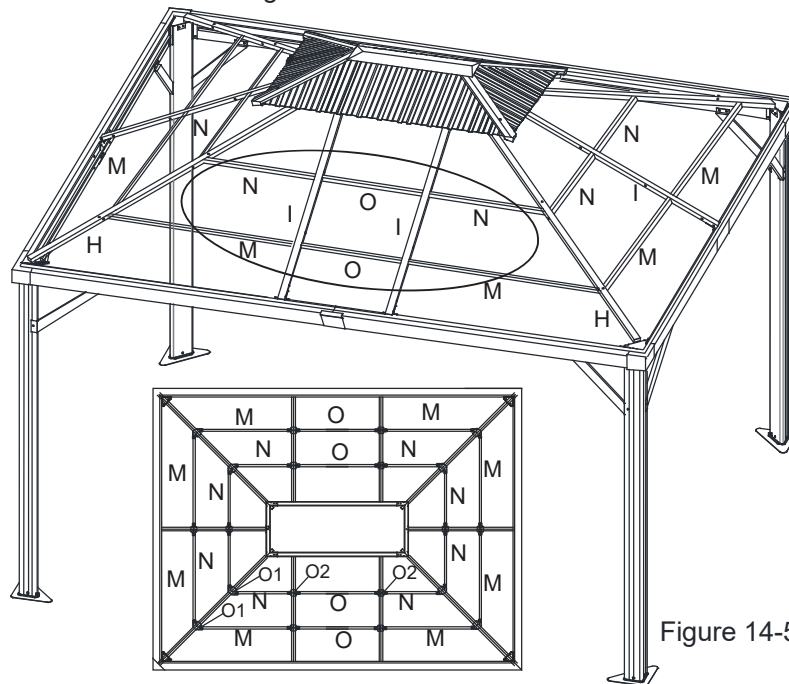

Figure 14-5
14.5: Repeat for all sides. Tighten all Bolts. See Figure 14-5.